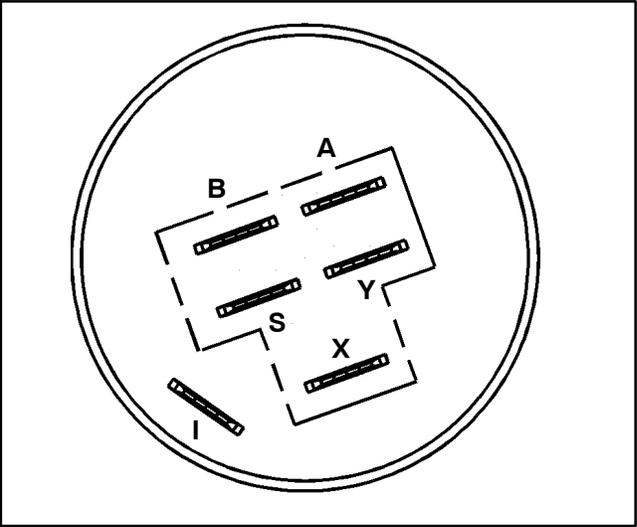

Figure 9
The ignition (key) switch has three (3) positions (OFF, RUN and START). The terminals are marked as shown in Figure 9. The circuitry of the ignition switch is shown in the chart below. With the use of a multimeter (ohms setting), the switch functions may be tested to determine whether continuity exists between the various terminals for each position. Verify continuity between switch terminals.